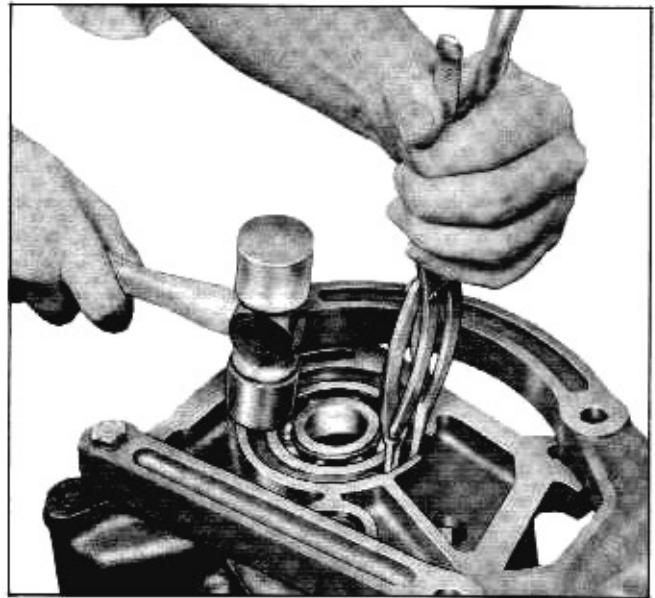

Fig. 7-26 Removing Mainshaft Bearing
8. To remove the mainshaft bearing from the case, fully expand retaining ring and start bearing out by tapping on outer race (Fig. 7-26). Then drive bearing out of case.